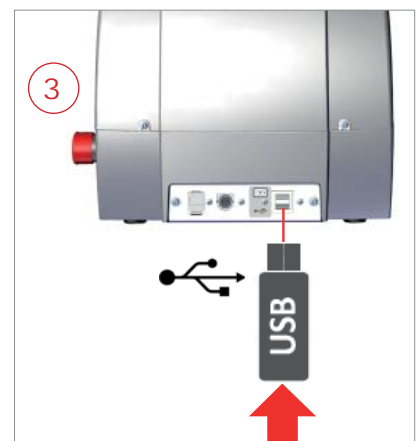

Fig. 23
- 3) Insert the USB PEN DRIVE into the special port on FUTURA PRO (Fig. 23). **Note: FUTURA has one USB port only.** Follow the instructions on the screen: tap the “RE-START FUTURA” button to re-start the FUTURA PRO machine.